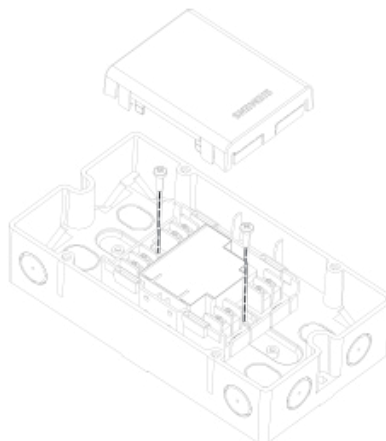

Fig. 4.7.2
3. Place electronic component into housing marked "TOP" pointing upward (terminals at right) until locking device engages (see Fig. 4.7.2).